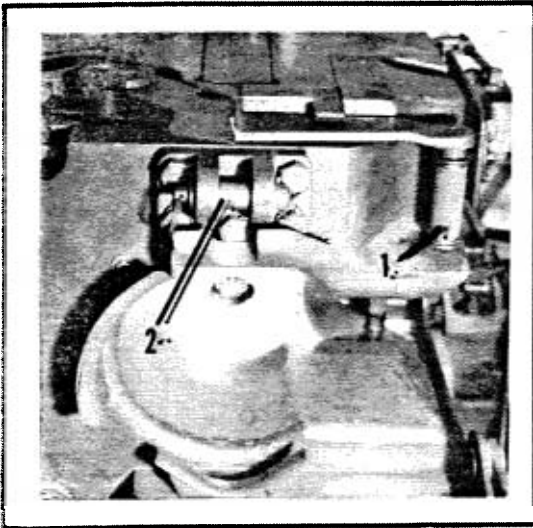

FIG. 3-58. BREECH HANDLE STOWED
j. Breech Opening Handle (Fig. 3-58). The breech opening handle is located on the top edge of the gun. The springloaded handle (Fig. 3-59) must be raised to clear its detent from the locked travel position. The